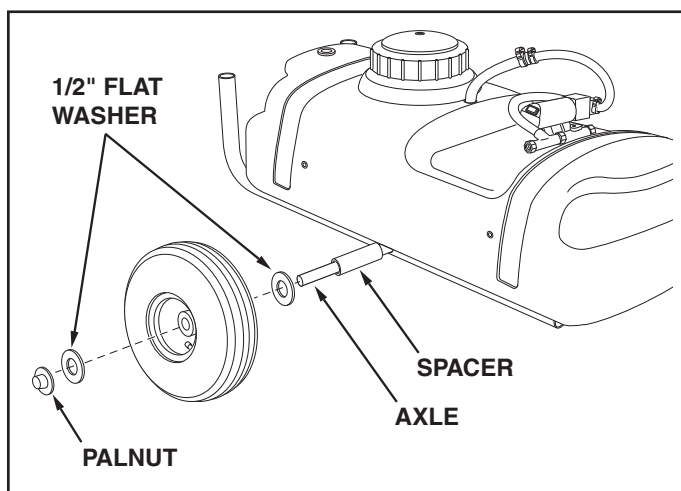

FIGURE 1
- (1) Hammer
- Assemble the axle through the holes in the frame tubes. You may need to slightly loosen the bolts in the frame tubes to make the axle fit. Retighten the bolts only enough to flatten the lockwashers. See figure 1.
- Assemble a spacer, a 1/2" flat washer, a wheel and another 1/2" flat washer onto the axle. Lightly tap a palnut onto the end of the axle. Repeat on other end of axle. See figure 1.